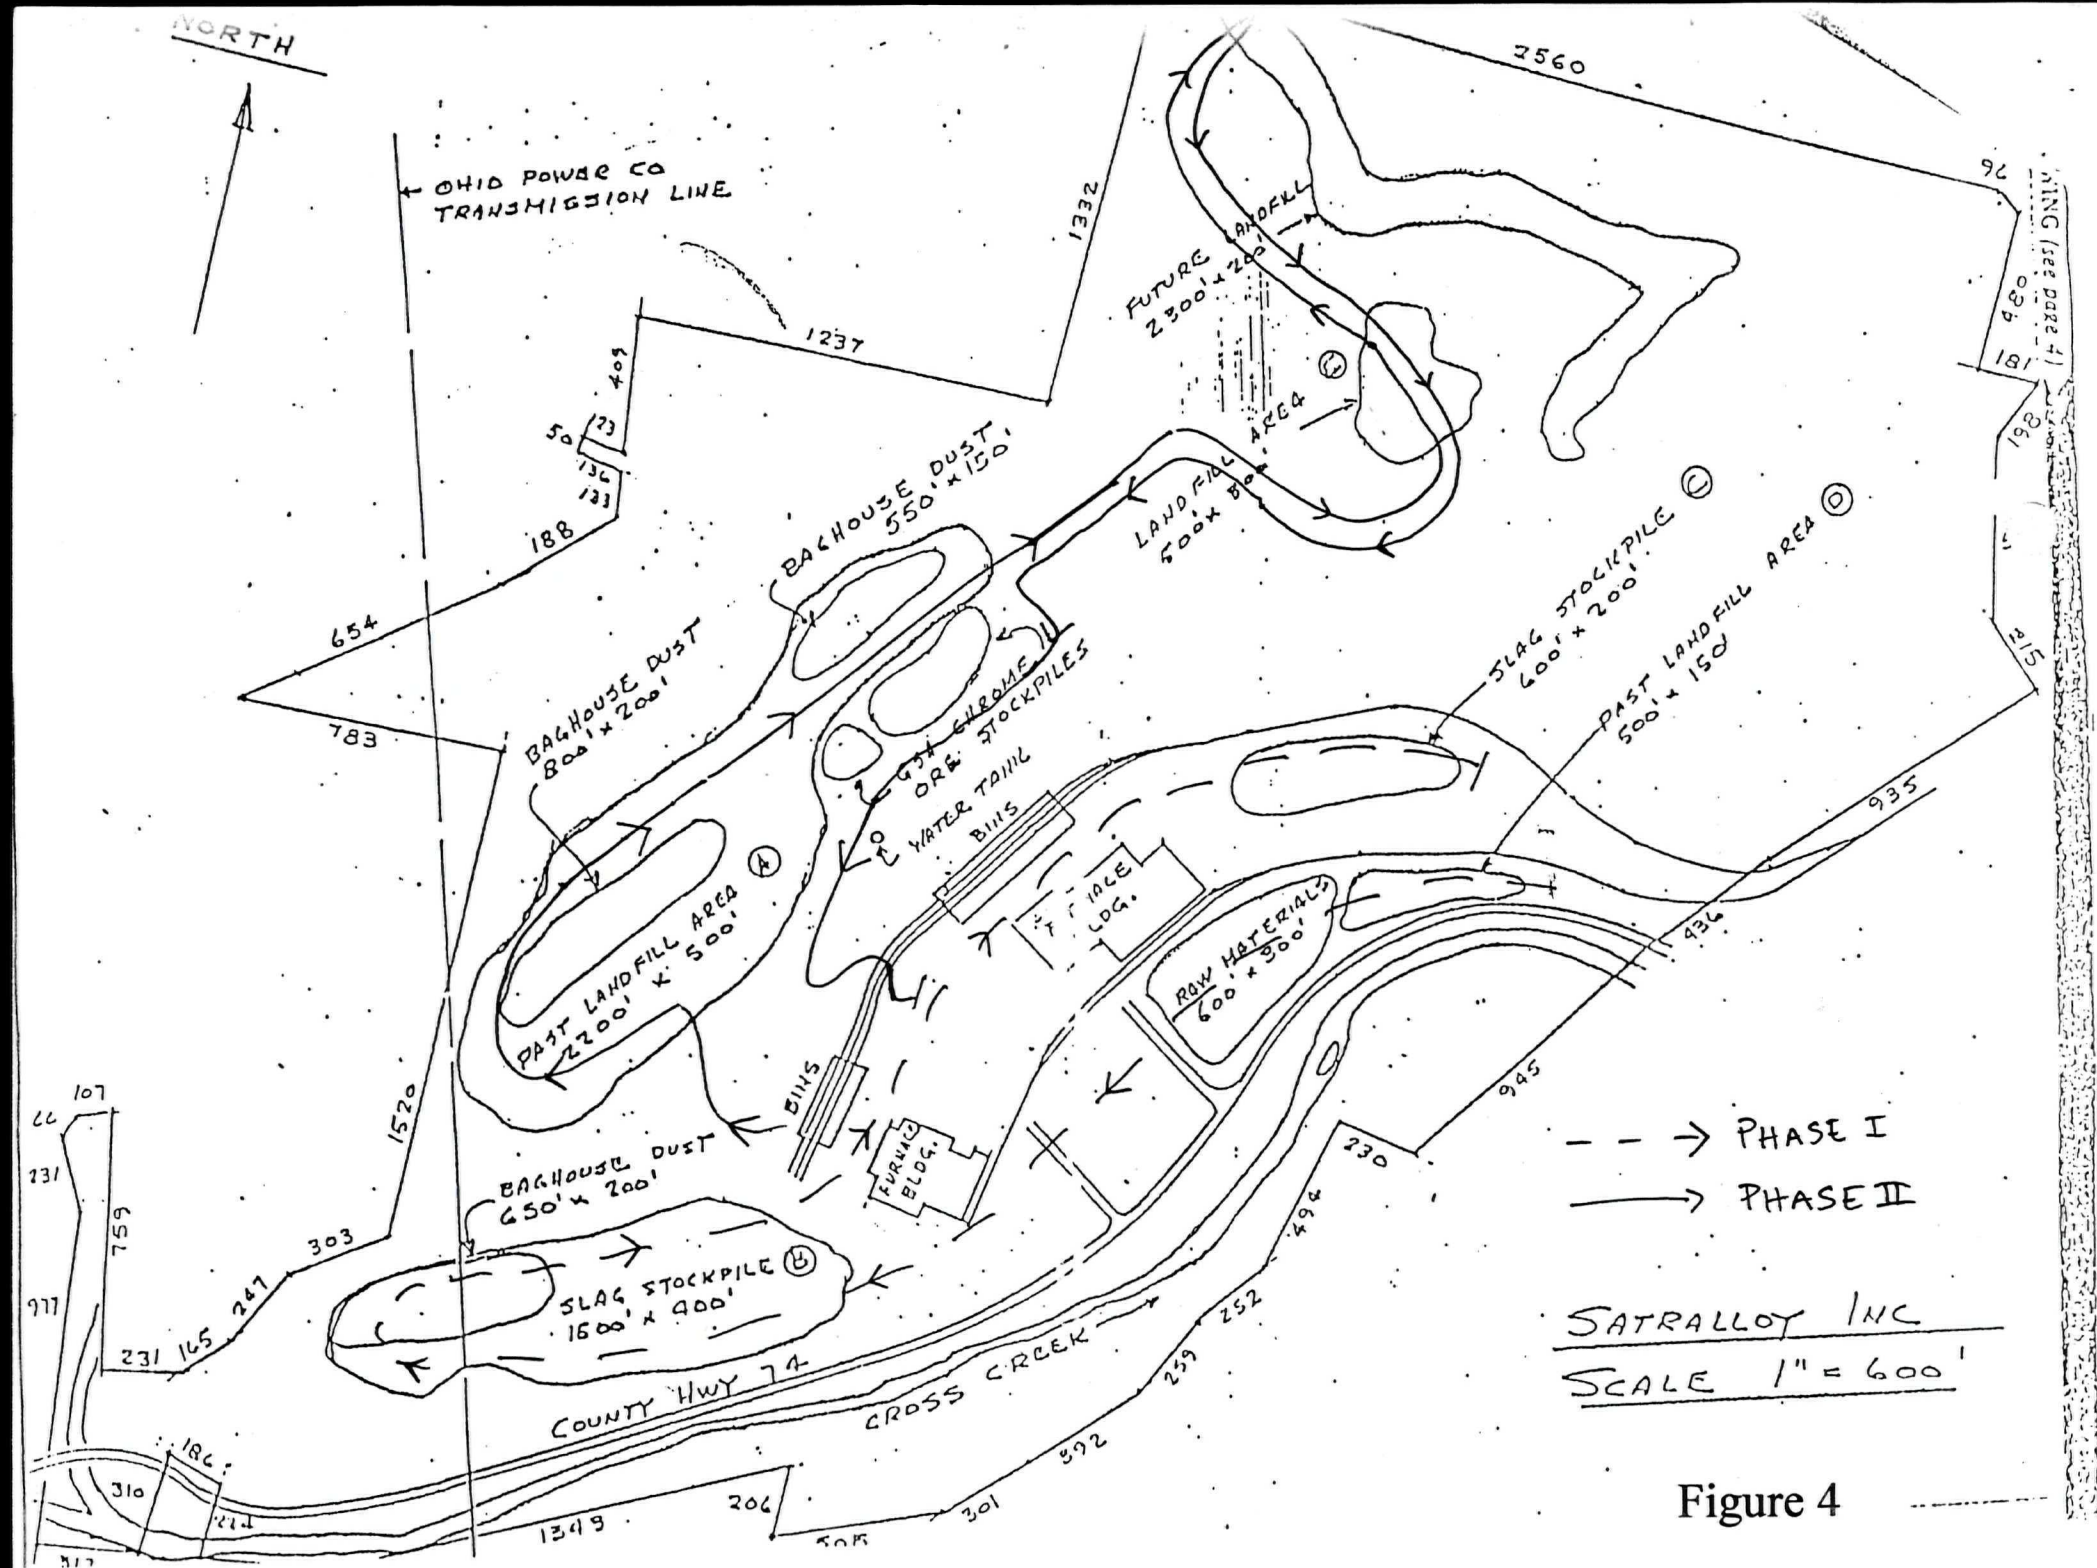

Figure 4
- Figure 4: Anticipated Reconnaissance Path (DERR)